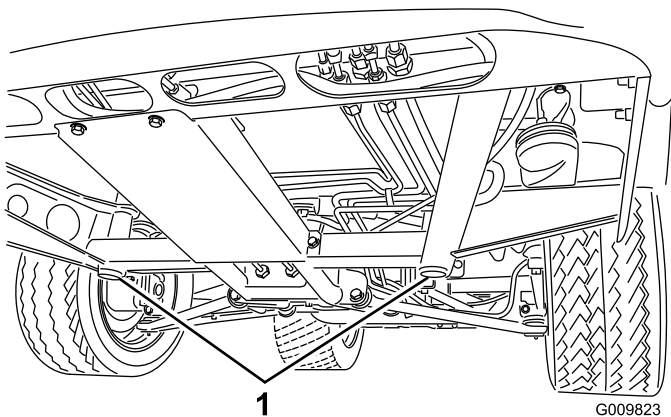

Figure 15
- The jacking point at the front of the vehicle is under the front center frame support (Figure 15).